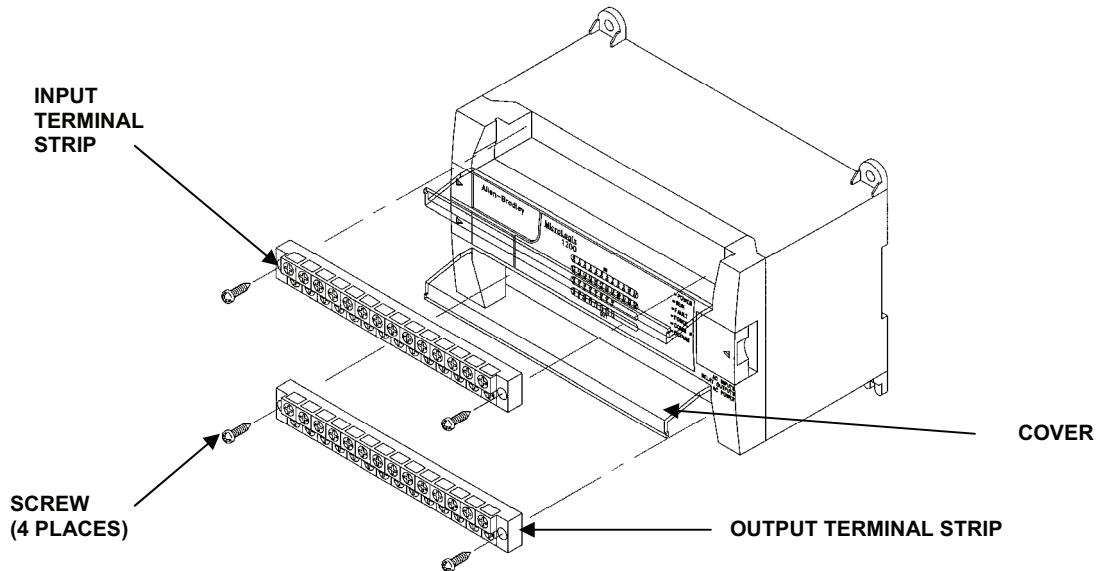

Figure 5. Programmable Logic Controller.
1. Open plastic covers over input and output terminal strips. See Figure 5.
2. Remove two (2) screws from each input or output terminal strip on sides of PLC.